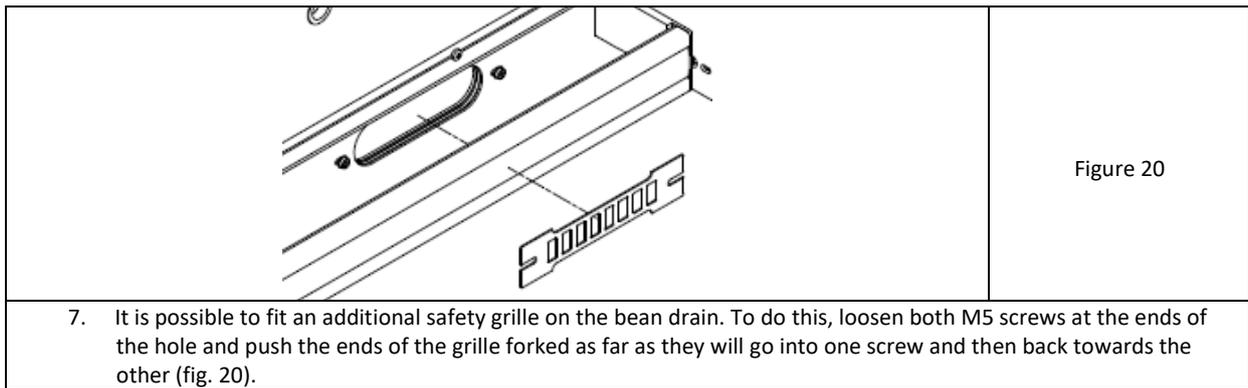

Figure 20
7. It is possible to fit an additional safety grille on the beam drain. To do this, loosen both M5 screws at the ends of the hole and push the ends of the grille forked as far as they will go into one screw and then back towards the other (fig. 20).